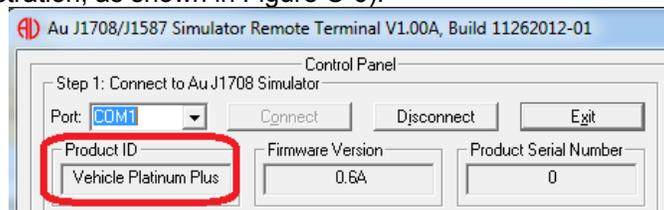

Figure C-6
- 6. When it is updated successfully, a beep will be heard. About J1708 Simulator window will close automatically, and the Product ID (Edition of J1708/J1587 Simulator) will update to the new edition (Vehicle Platinum Plus Edition in this demonstration, as shown in Figure C-6).